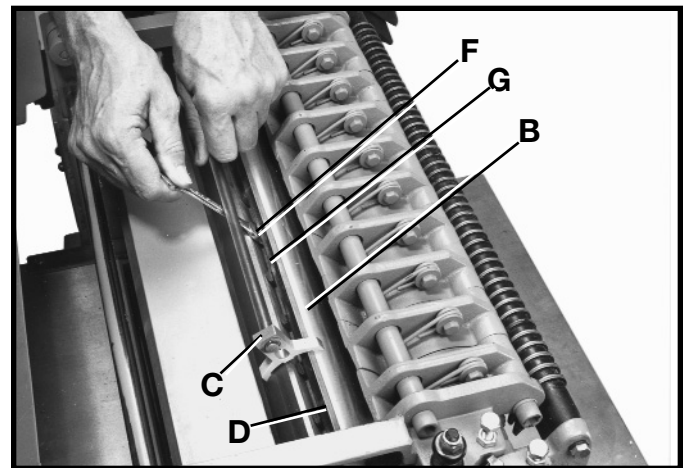
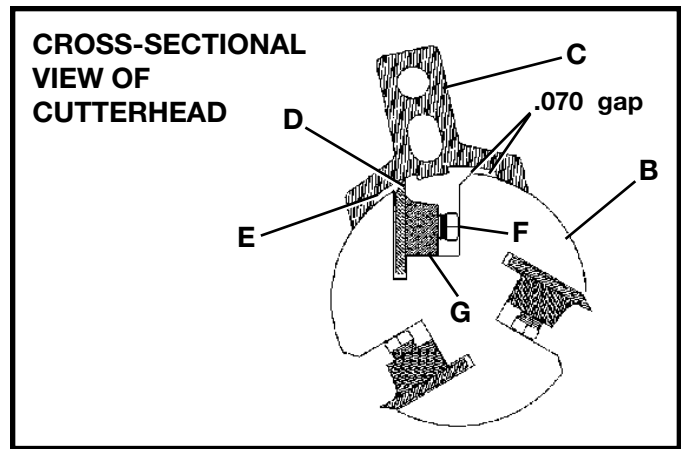

Fig. 34
Fig. 35
3. Carefully place knife setting gage (C) Figs. 34 and 35, so the gage is positioned on the radiused section of cutterhead (B). When set correctly, knife (D) Figs. 34 and 35, should just contact the bottom of inset section (E) Fig. 35 of knife setting gage (C) which is set at .070 . Check the remaining knives in the same manner.
4. If an adjustment to one or all three knives is necessary, slightly loosen the 12 locking screws, one of which is shown at (F) Fig 34 and also in Fig. 35, just enough to relieve stress in cutterhead (B) and not disturb the knife setting.
5. With knife setting gage (C) Figs. 34 and 35 still in place on the cutterhead, continue to adjust the knife that must be reset by turning the 12 knife locking screws **CLOCKWISE** until knife locking bar (G) becomes loose. Lifter springs (not shown) located under the knife will automatically raise the knife until it comes in contact with the gage (C). Then snug up the knife locking bar (G) Fig. 34 and Fig. 35, by turning the ten screws (F) **COUNTERCLOCKWISE**. **IMPORTANT: AT THIS TIME, ONLY TIGHTEN THE KNIFE LOCKING BAR (G) JUST ENOUGH TO HOLD THE KNIFE (D) IN POSITION INSIDE THE CUTTERHEAD SLOT.**
7. After all the knives are positioned in the cutterhead with the knife locking screws snug, turn each of the 12 locking screws (F) Fig. 34, **COUNTERCLOCKWISE UNTIL THE KNIVES ARE SECURE IN THE CUTTERHEAD**. **NOTE:** When tightening the knife locking screws (F), tighten the end screws first, then proceed inward toward the center of the cutterhead.
9. Carefully place knife setting gage (C) Fig. 34, so it is positioned on the radiused section of the cutterhead (B) Fig. 35.
10. Loosen knife locking bar (G) Figs. 34 and 35, by turning 12 knife locking screws, 10 of which are shown at (F) **CLOCKWISE** and carefully remove locking bar (G), knife (D), and springs (not shown) which are located under the knife, from the cutterhead. Remove the remaining knives in the same manner.
12. Carefully replace the springs (not shown), knives (D) Fig. 35, and knife locking bars (G) into the three slots in the cutterhead (B). **IMPORTANT: WHEN REPLACING KNIFE LOCKING BARS (G) FIG. 35, AGAINST KNIVES (D) AS SHOWN IN THE CROSS SECTIONAL ILLUSTRATION, MAKE CERTAIN KNIFE LOCKING BARS (G) ARE INSTALLED AS SHOWN, WITH LOCKING SCREWS (F) HOLDING KNIVES (D) PROPERLY INSIDE THE CUTTERHEAD SLOTS. TURN ALL KNIFE LOCKING SCREWS, ONE OF WHICH IS SHOWN AT (F), COUNTERCLOCKWISE, JUST ENOUGH TO HOLD THE KNIVES IN THE CUTTERHEAD.**